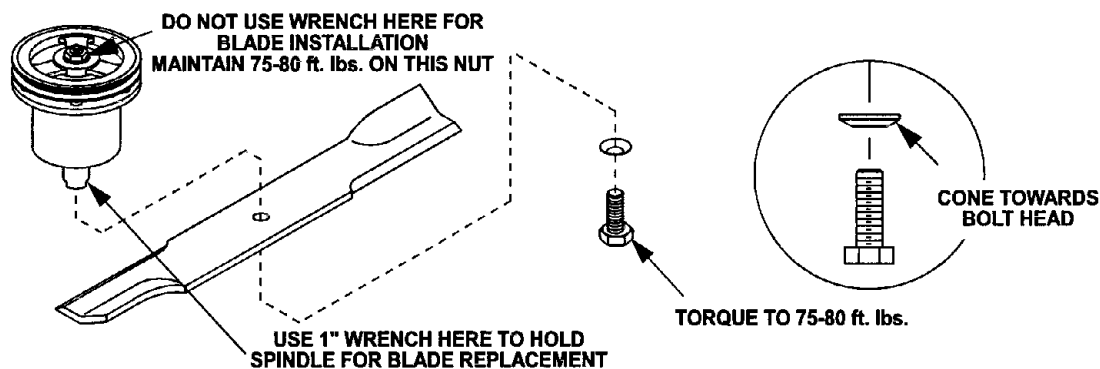

FIG. 9
- g) Re-install the blades (if they were removed) and torque blade bolts to 75-80 ft. lbs. Be sure the spring disk washer cone is installed toward the bolt head (See Figure 9).